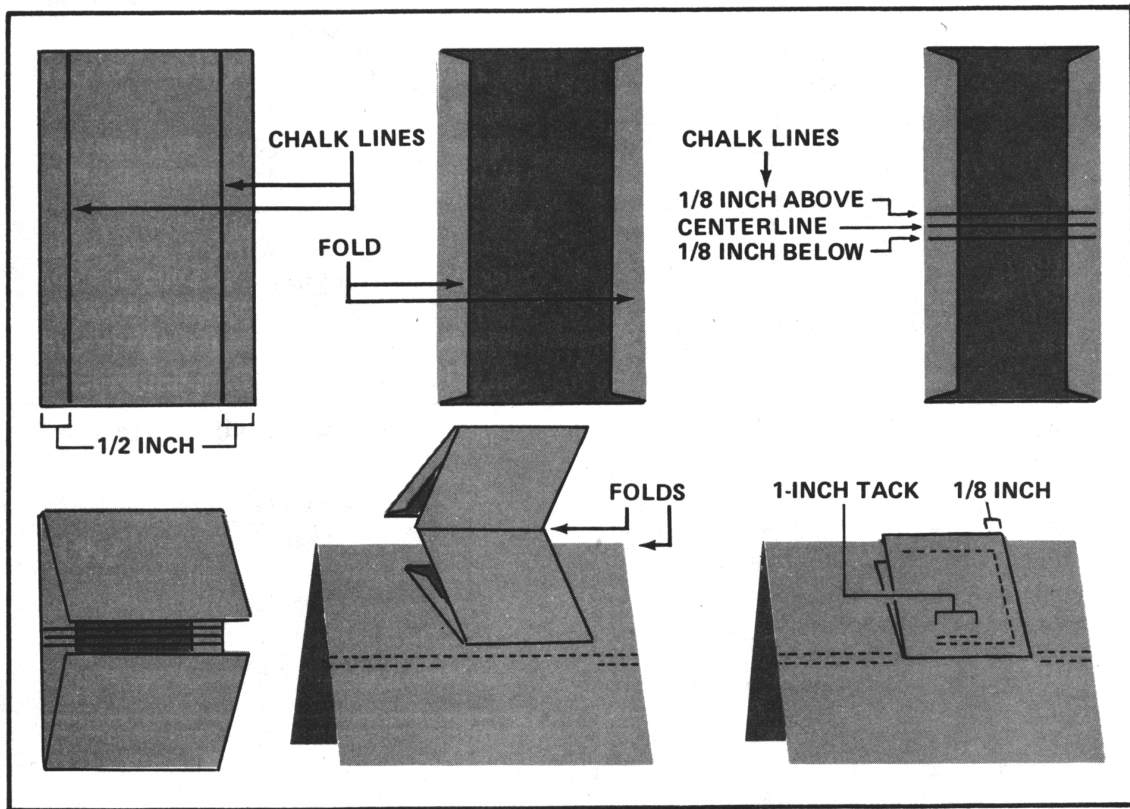

Figure 9-11. Eave-edge patch
e. Eave-Edge Patch. An eave-edge patch (Figure 9-11) is used to repair damage on the eave of a tent. It is sewn to both sides of the eave. To make an eave-edge patch--
- (1) Measure the width of the eave.
- (2) Measure the length of the damaged area.
- (3) Cut a patch from matching canvas. Make it four times as wide as the eave. Make it long enough to extend 2 1/2 inches beyond the damage on the left and right sides.
- (4) Turn the patch faceup. Draw chalk lines 1/2 inch from the left and right sides.
- (5) Fold under the left and right raw edges along the chalk lines. Crease the folded edges in place.
(6) Turn the patch facedown. Measure and mark a horizontal chalk line in the center of the patch.
(7) Draw chalk lines 1/8 inch above and below the center chalk line.
(8) Fold the patch in half on the center chalk line. Crease the folded edge in place.
(9) Fold the top and bottom raw edges toward the center until the edges meet the 1/8-inch chalk lines. Crease the folded edges in place.
(10) Wrap the patch around the eave so that the fold in the center of the patch is on the bottom edge of the eave. Center the patch over the damage.